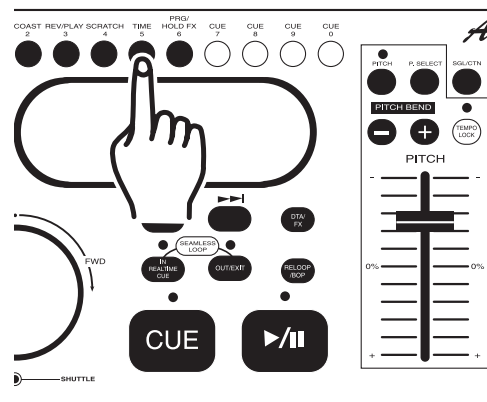

Figure 11
10. CHANGING THE TIME DISPLAY (42, 43, & 44)/TIME BAR (46):
The time may be displayed in three different modes; *Elapsed*, *Remain*, and *Total Remain*. During normal playback, pressing the *TIME BUTTON* (5) as in figure 11, will change the time display information (57, 58, & 59) in the *LCD* (14). The following is a break down of the time settings and their definitions:
- 1) **ELAPSED** (56) - This details the time in the *LCD* (14) as the current tracks' elapsed running time. The elapsed function only details a tracks elapsed time and not the entire disc.
- 2) **REMAIN** (62) - This details the time in the *LCD* (57, 58, & 59) as the current tracks' remaining running time.
- 3) **TOTAL REMAIN** (66) - This details the time in the *LCD* (14) as the total disc remaining time.